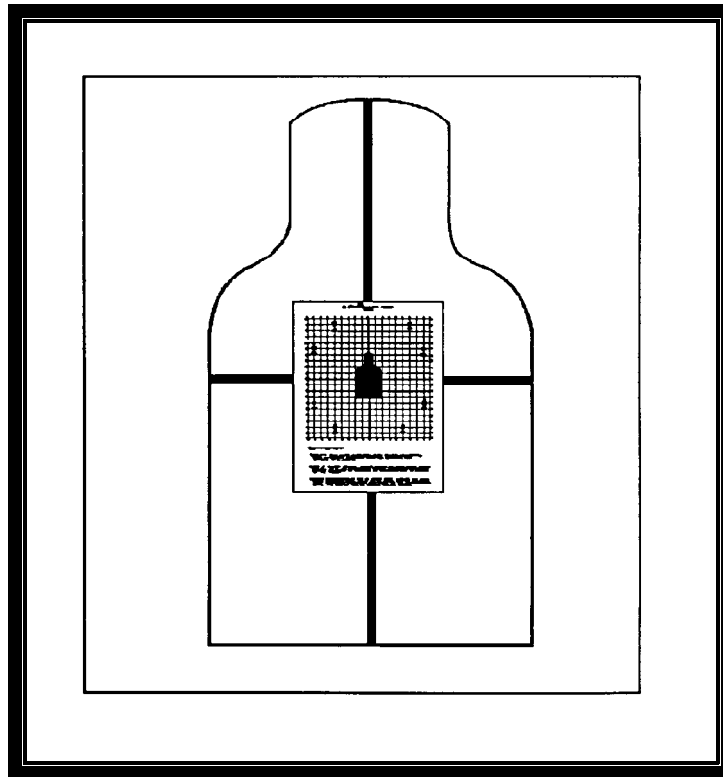

Figure 5
(1) *Modify the 25-meter zero target.* This is the first step in the live-fire zero designed to help the firer determine the center of target mass and maintain a consistent aim point when zeroing. Using the tan side of a cardboard E-silhouette, stripe the full length and width of the cardboard with 3/4-inch black electrical tape. These stripes should divide the E-silhouette in half, vertically and horizontally. Center and staple the 25-meter zero target at the intersection of these black stripes. The zero target can be removed from the E-silhouette and replaced as needed. See Figure 5 for this target configuration.